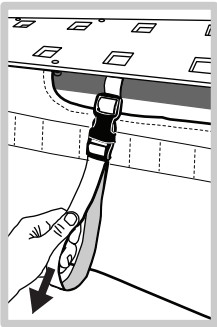

Figure 13
8. Tighten the webbing ends so that the front of the flap is nearly touching the deck (Figures 13, 14).